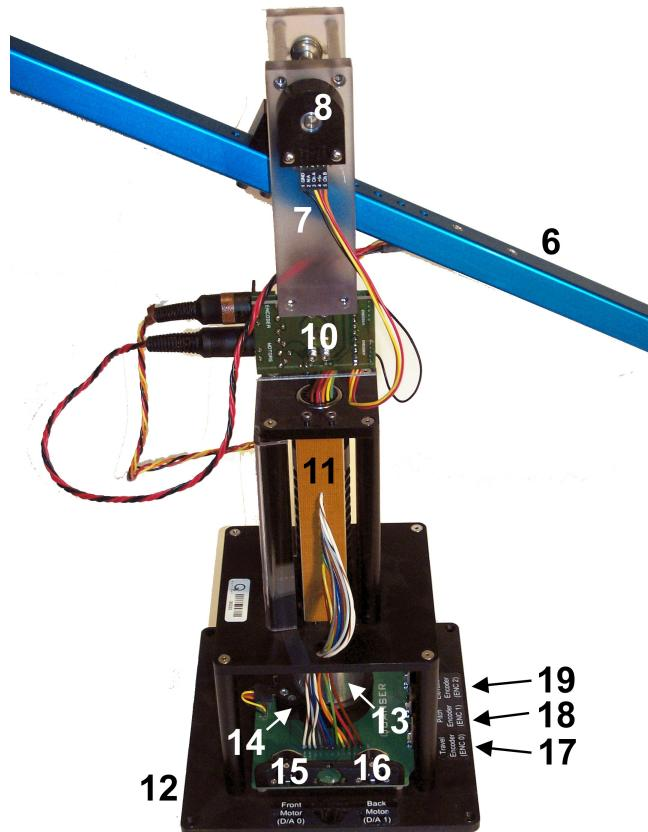

Figure 4: Components on 3-DOF Helicopter base.
6. Connect the flat 5-pin encoder connector from the helicopter circuit to the elevation encoder, ID #8 in Figure 4. Make sure the GND pin on the cable is wired to the connector labeled GND on the elevation encoder.